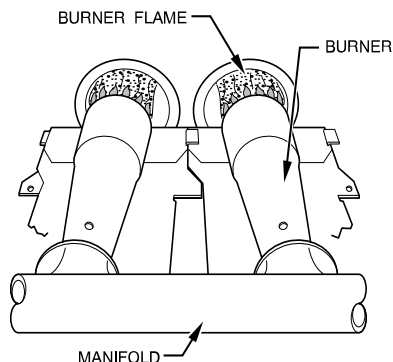

Fig. 64 – Burner Flame
- When correct input is obtained, replace caps that conceal gas valve regulator adjustment screws. Main burner flame should be clear blue, almost transparent See Fig. 64.